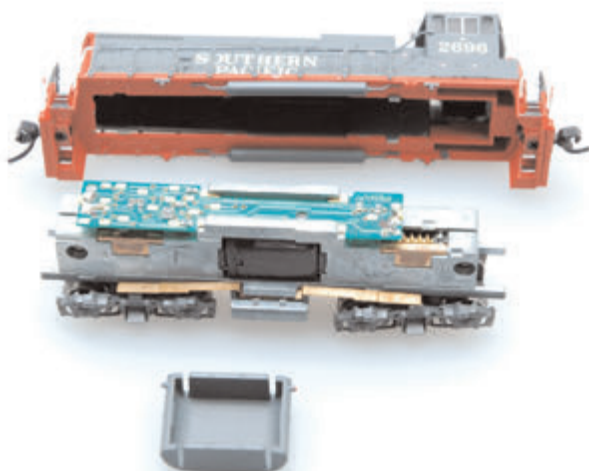

Figure 4. Atlas MP-15DC with shell ready for reassembly
6. Re-install the MP-15DC shell and fuel tank and you're done! *Figure 4)*